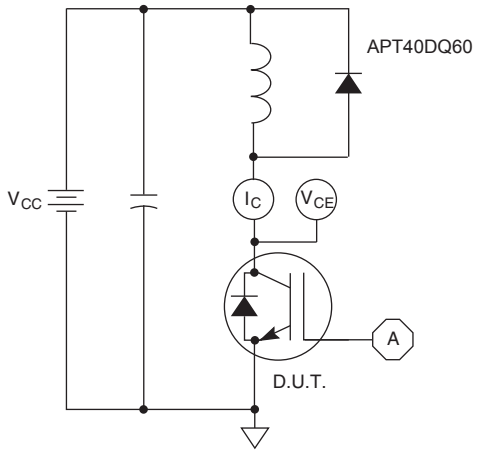

Figure 21, Inductive Switching Test Circuit
① Repetitive Rating: Pulse width limited by maximum junction temperature.
② For Combi devices,  $I_{ces}$  includes both IGBT and FRED leakages
③ See MIL-STD-750 Method 3471.
④  $E_{on1}$  is the clamped inductive turn-on energy of the IGBT only, without the effect of a commutating diode reverse recovery current adding to the IGBT turn-on loss. Tested in inductive switching test circuit shown in figure 21, but with a Silicon Carbide diode.
⑤  $E_{on2}$  is the clamped inductive turn-on energy that includes a commutating diode reverse recovery current in the IGBT turn-on switching loss. (See Figures 21, 22.)
⑥  $E_{off}$  is the clamped inductive turn-off energy measured in accordance with JEDEC standard JESD24-1. (See Figures 21, 23.)
⑦  $R_G$  is external gate resistance, not including  $R_{G(int)}$  nor gate driver impedance. (MIC4452)
⑧ Continuous current limited by package lead temperature.